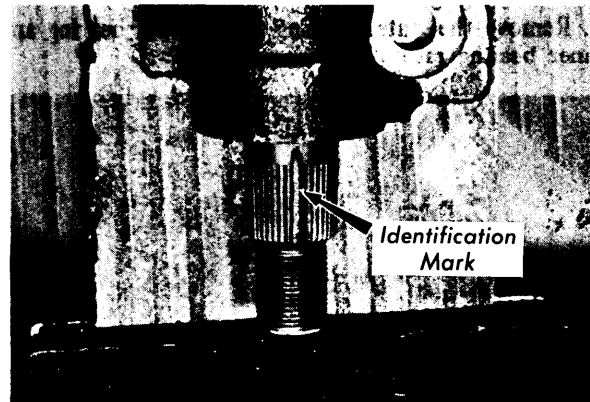

Fig. 4 Location of Identification Mark
2) Remove pitman arm nut and using puller (49 0223 695D), remove pitman arm. Remove sector shaft adjusting screw lock nut. To center the gear, turn worm shaft until identification mark is in the position shown in Fig. 4.